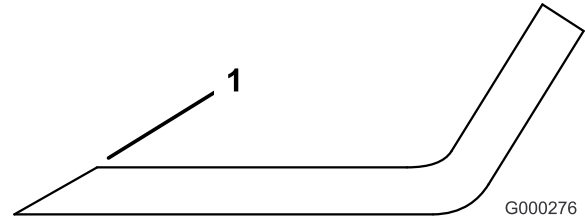

Figure 87
- Examine the cutting edges of all of the blades. Sharpen the cutting edges if they are dull or nicked. Sharpen only the top of the cutting edge and maintain the original cutting angle to make sure of sharpness (Figure 87). The blade will remain balanced if the same amount of metal is removed from both cutting edges.